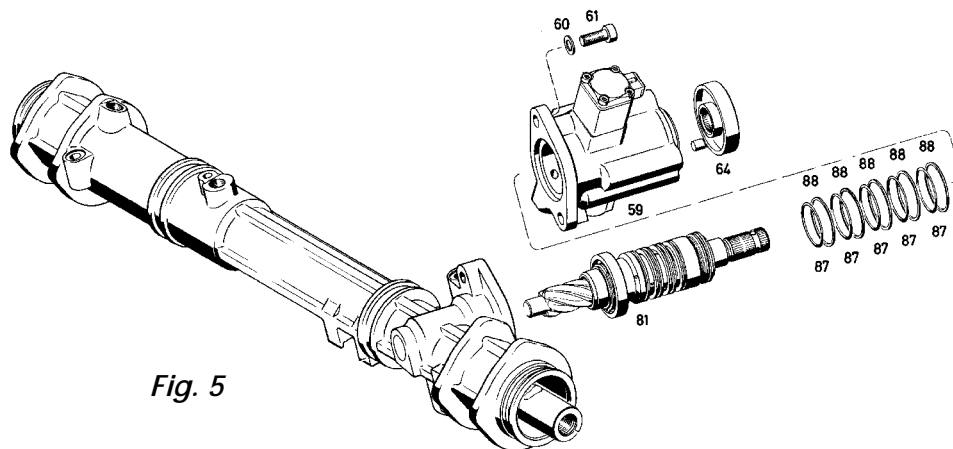

Fig. 5
Screw out the cap screws (61) with washers (60) (*Fig. 5*).